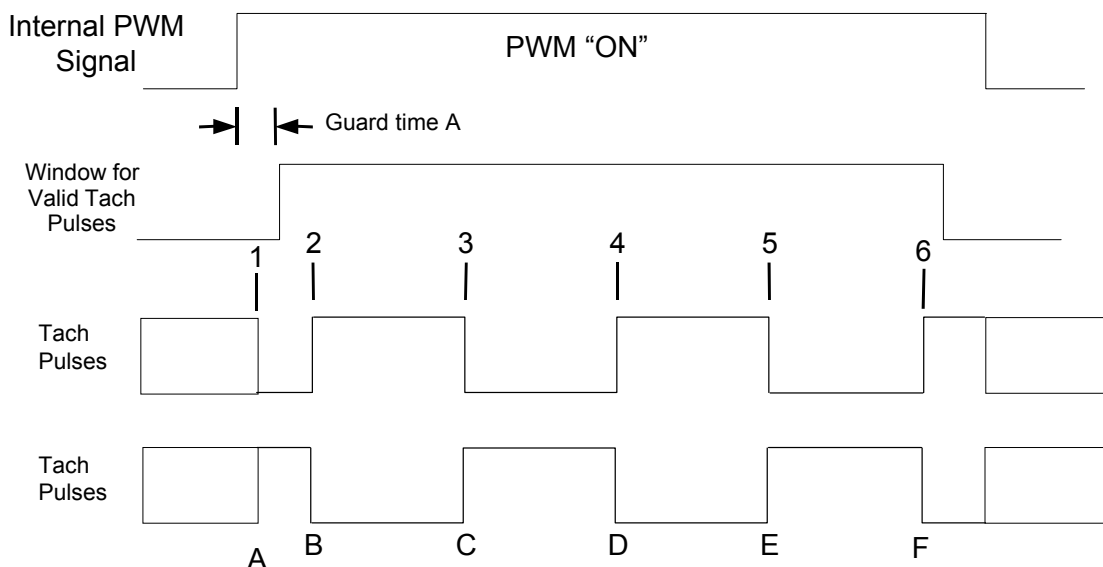

Figure 26.9 PWM and Tachometer Concept
ASSUMPTIONS (REFER TO FIGURE 26.9, "PWM AND TACHOMETER CONCEPT"):
The Tachometer pulse generates 5 transitions per fan revolution (i.e., two fan tachometer periods per revolution, edges 2→6). One half of a revolution (one tachometer period) is equivalent to three edges (2→4 or 3→5). One quarter of a revolution (one-half tachometer period) is equivalent to two edges. To obtain the fan speed, count the number of 90Khz pulses that occurs between 2 edges i.e., 2→3, between 3 edges i.e., 2→4, or between 5 edges, i.e. 2→6 (the case of 9 edges is not shown). The time from 1-2 occurs through the guard time and is not to be used. For the discussion below, an edge is a high-to-low or low-to-high transition (edges are numbered – refer to Figure 26.9 PWM and Tachometer Concepton page 221).
- 2, 3, 5 or 9 “edges” to calculate the fan speed (Figure 26.9)
- Guard time A is programmable (8-63 clocks) to account for delays in the system (Figure 26.9)